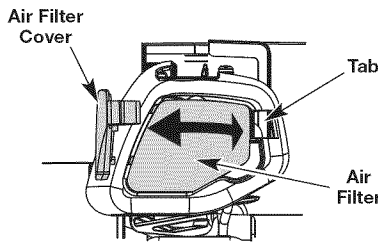

Fig. 22
- Open the air filter cover by pressing the lock tab in and pulling out on the air filter cover (Fig. 22).
- Remove the air filter (Fig. 22).
- Replace the air filter into the base plate (Fig. 22).
- Reinstall the air filter cover. Position the two small tabs on the air filter cover into the two slots in the base plate and press the air filter cover down, making sure to align the lock tab with the lock tab slot, until it snaps into place (Fig. 22).